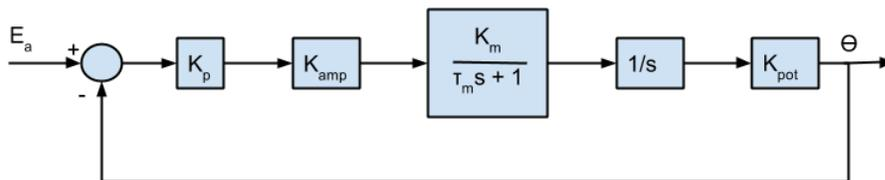

Figure 1: Proportional controller block diagram
2. Place the position transfer function in a unity feedback loop with proportional gain controller. See Figure 1. Calculate the closed loop transfer function of this system. Hint: it should simplify into the form of an ideal second order system.
Using MATLAB's Simulink, create three simulations to simulate the systems in questions 2, 3, and 4 using the gains you calculated in those questions. Start with the file GE320_lab4starter.mdl (which can be downloaded at http://coecsl.ece.illinois.edu/ge320/GE320_lab4starter.mdl). Make sure to save this file with a new name and bring the file with you to lab. Then use Figures 1, 2, and 3 as a guide to create your Simulink simulations. You will compare these simulated step responses to actual step responses of the motor. Ensure that you include all these gains and system components: